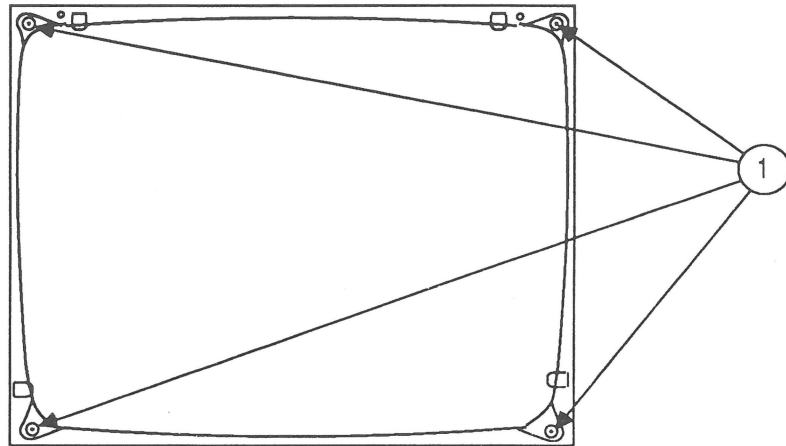

FIGURE 39
9. While supporting the CRT with one hand, remove the four screws and washers that secure the CRT to the chassis frame (Figure 39, #1). **If the washers fall off, pick them up and save them. You will need them when replacing the CRT.**
3. Replace the four screws and washers that secure the CRT to the chassis frame (Figure 39, #1).